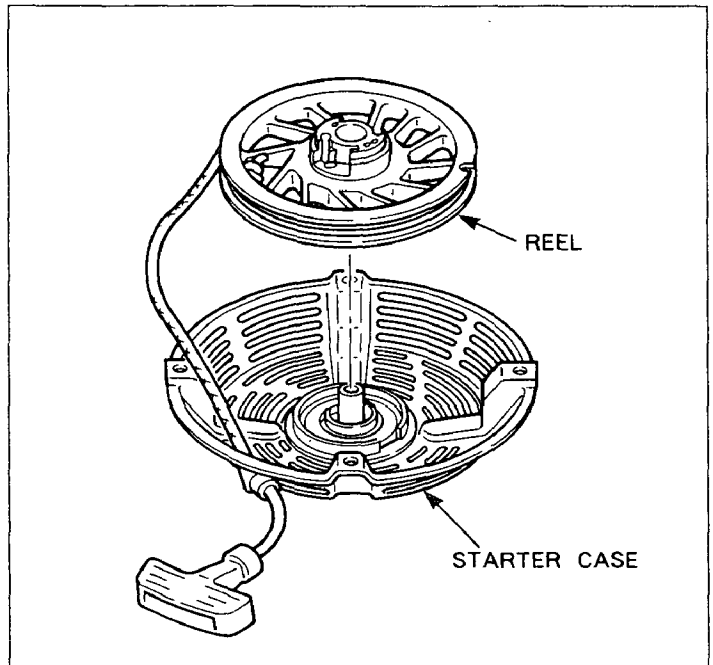

Fig. 71
- (4) Remove reel from starter case as shown in Fig. 71.